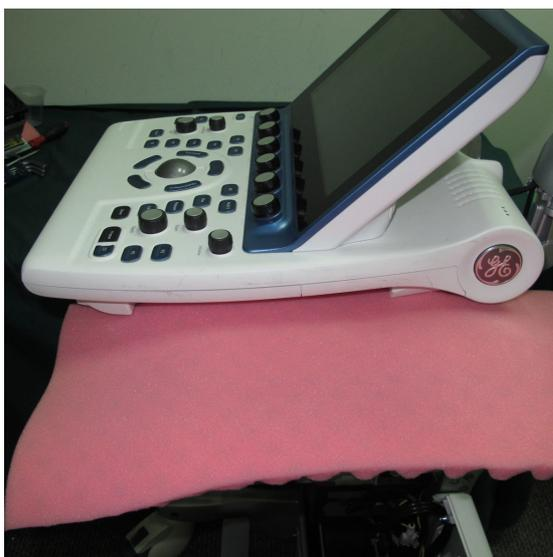

Figure 8-79 Protective Sponge shown Beneath OPIO
- 5) Before proceeding, place some protective sponge beneath the Keyboard Assembly unit to protect it from being damaged during the removal procedure - see Figure 8-79 below.